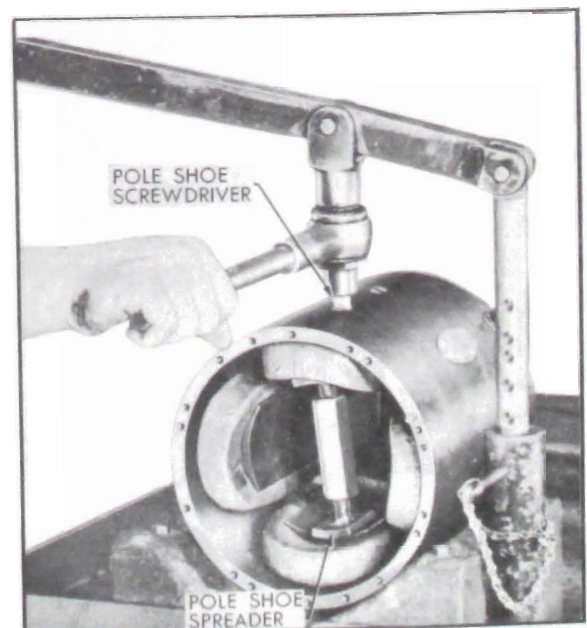

Figure 10-65—Using Pole Shoe Spreader and Screwdriver
6. If field coils are to be removed from field frame, a pole shoe spreader (KMO 579) and pole shoe screwdriver should be used to avoid distortion of frame. See figure 10-65.
Assemble cranking motor by reversing disassembly procedure. If field coils were removed, use pole shoe spreader (KMO 579) and pole shoe screwdriver to install them, to avoid distorting field frame and to insure proper tightening of pole shoe screws. See figure 10-65.